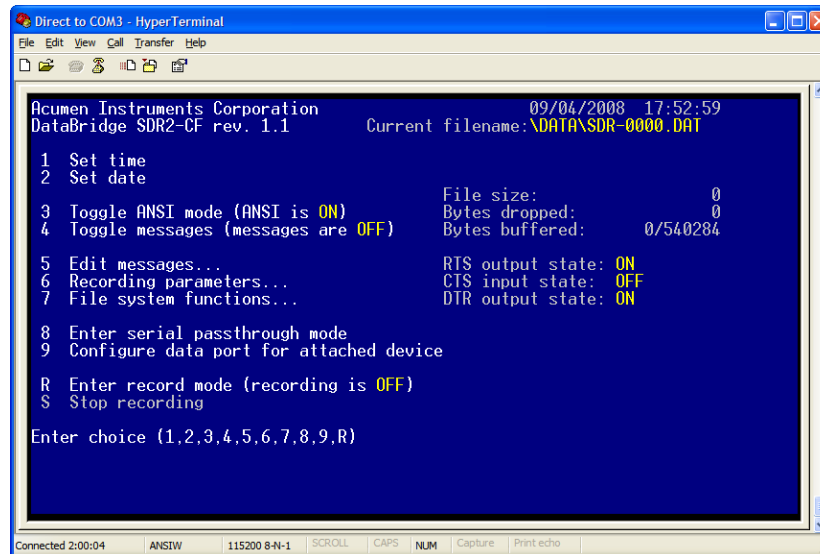

Figure 4.1. The DataBridge SDR2--CF configuration menu.
The SDR2-CF's core functions are accessed from the Configuration menu (see Figure 4.1) using terminal software. The Configuration menu includes functions for controlling both the SDR2-CF and the attached device. A number of the Configuration menu items either prompt for input or execute immediately, and therefore have no associated sub-menu.
From the main configuration menu (see Figure 4.1), typing **4** enables or disables all messages. If you are using the message feature, be sure the main menu displays “messages are ON” after menu item 4.